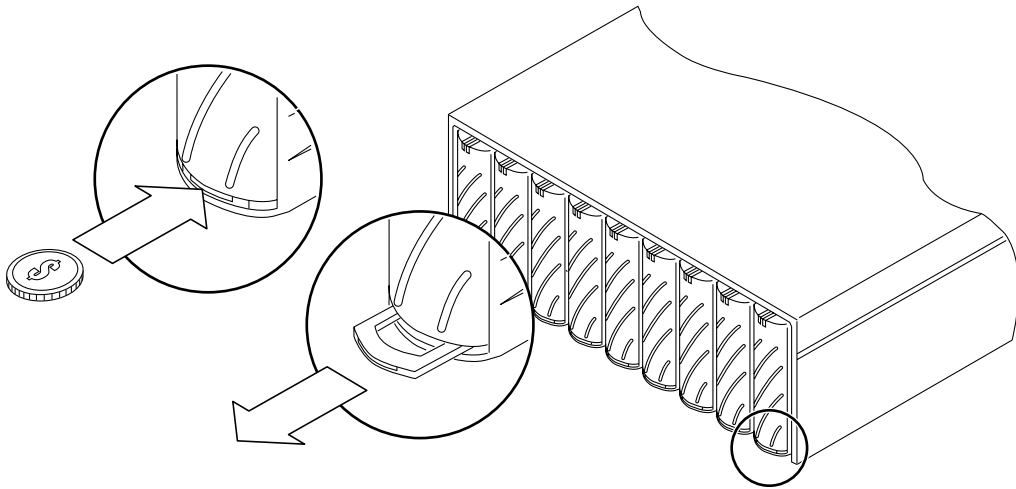

FIGURE 14-3 Releasing the Latch Handle
4. Use a coin or small screwdriver to press in and release the drive latch handle (FIGURE 14-3).